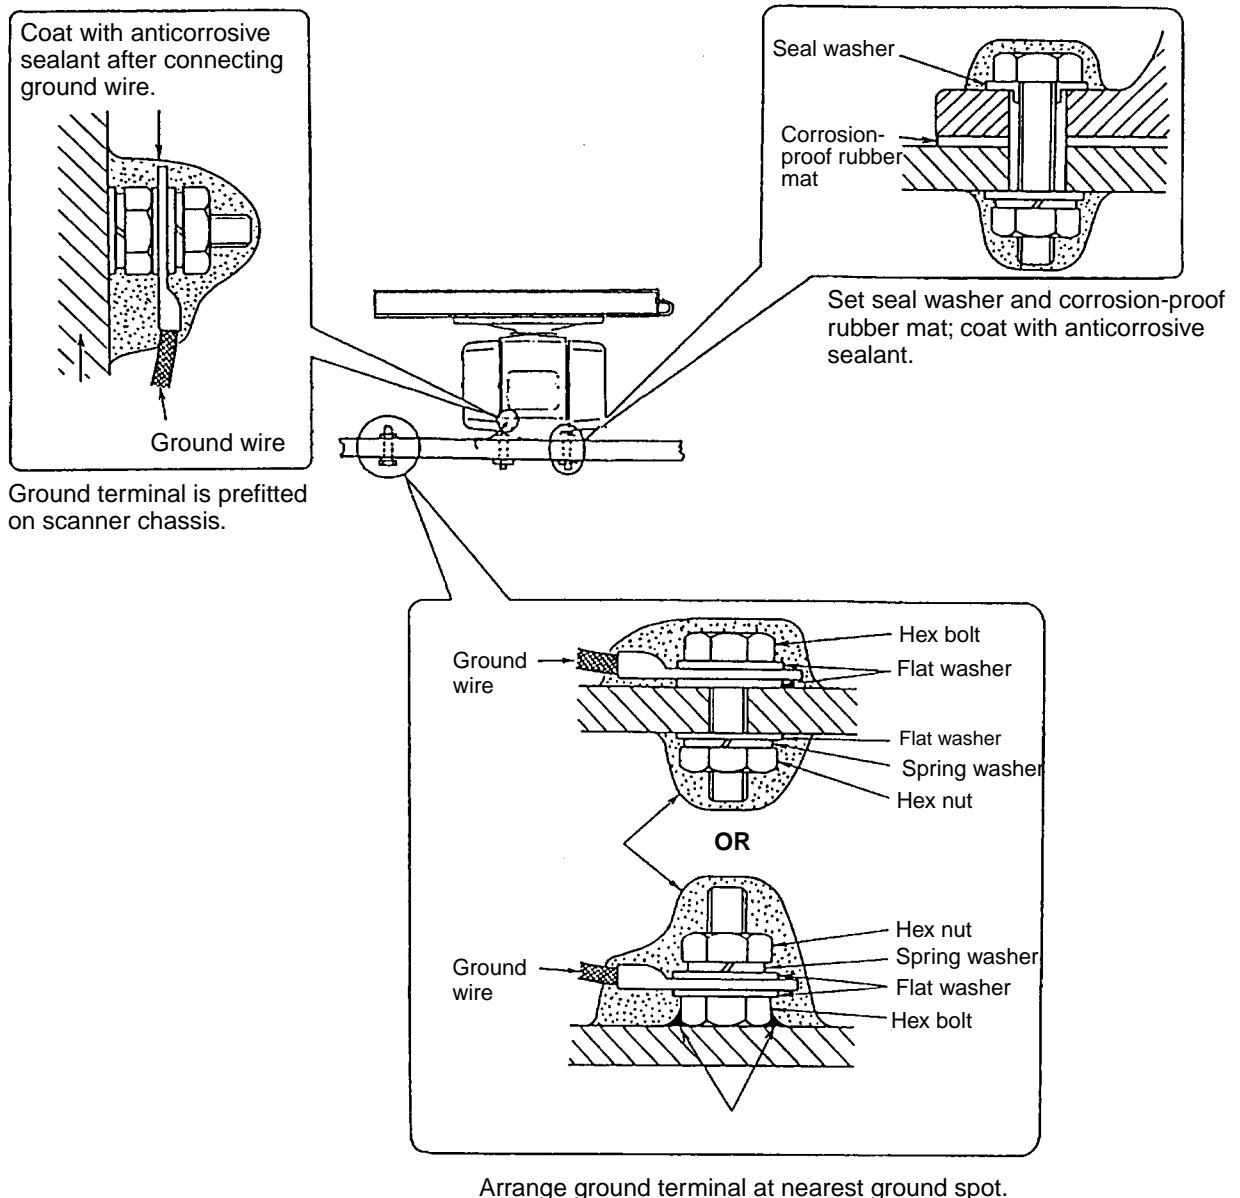

Figure 1-3 Mounting of scanner unit
6. Using hex bolt (M6x25), nut (M6) and flat washer (M6) establish the ground system on the mounting platform as shown in Figure 1-3. Connect the ground wire (RW-4747, 340 mm, supplied) between the grounding point and ground terminal on the scanner unit. Coat the entire ground system with silicone sealant (supplied).